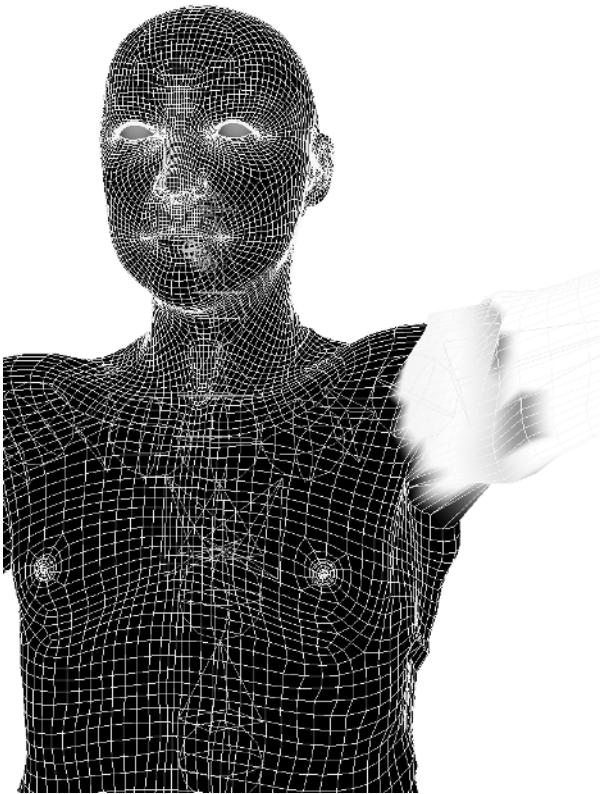

Figure 1.14
14. Choose shoulderLft_JNT. Change the Paint operation to Replace, and use a Value of 0.0. Paint out all the weights up to the shoulder. Use Figure 1.14 as a guide. Remember to do the back of the character as well.